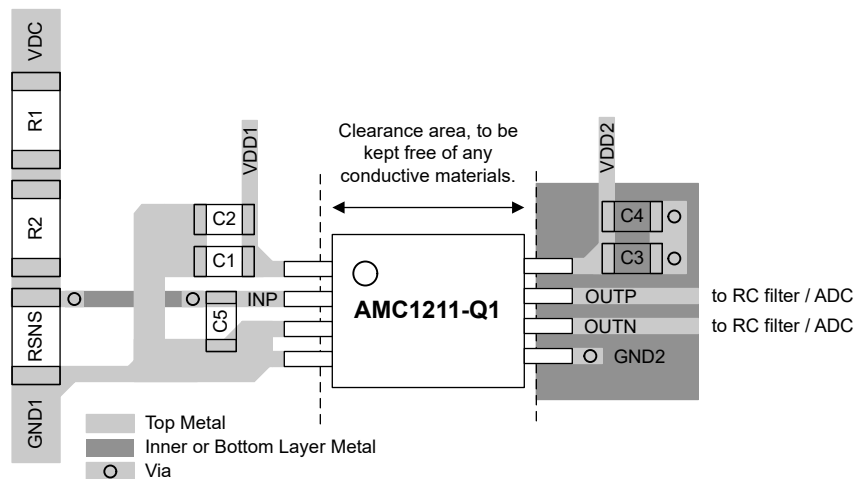

Figure 8-6. Recommended Layout of the AMC1211-Q1
Figure 8-6 shows a layout recommendation with the critical placement of the decoupling capacitors (as close as possible to the AMC1211-Q1 supply pins) and placement of the other components required by the device. For best performance, place the sense resistor close to the device input pin (IN).